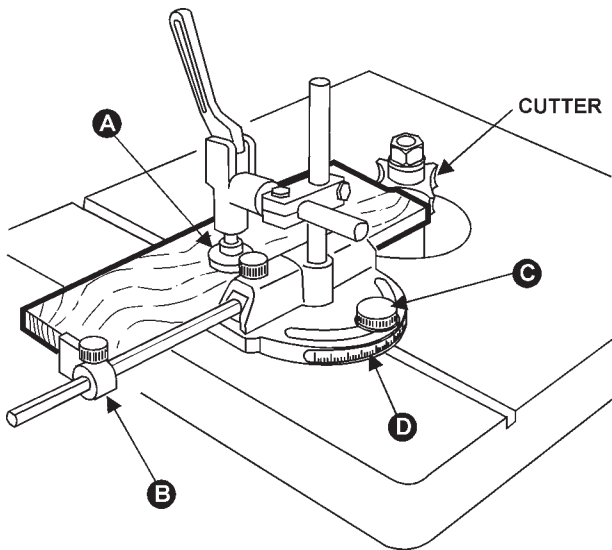

FIGURE 25
The miter gauge is used for shaping the end of stock, usually requiring removal of the fence. To edge-shape, place the stock against the gauge as shown, Figure 25. Tighten clamp (A) firmly against stock and adjust work stop (B) against rear edge of stock. Push work past cutterhead.